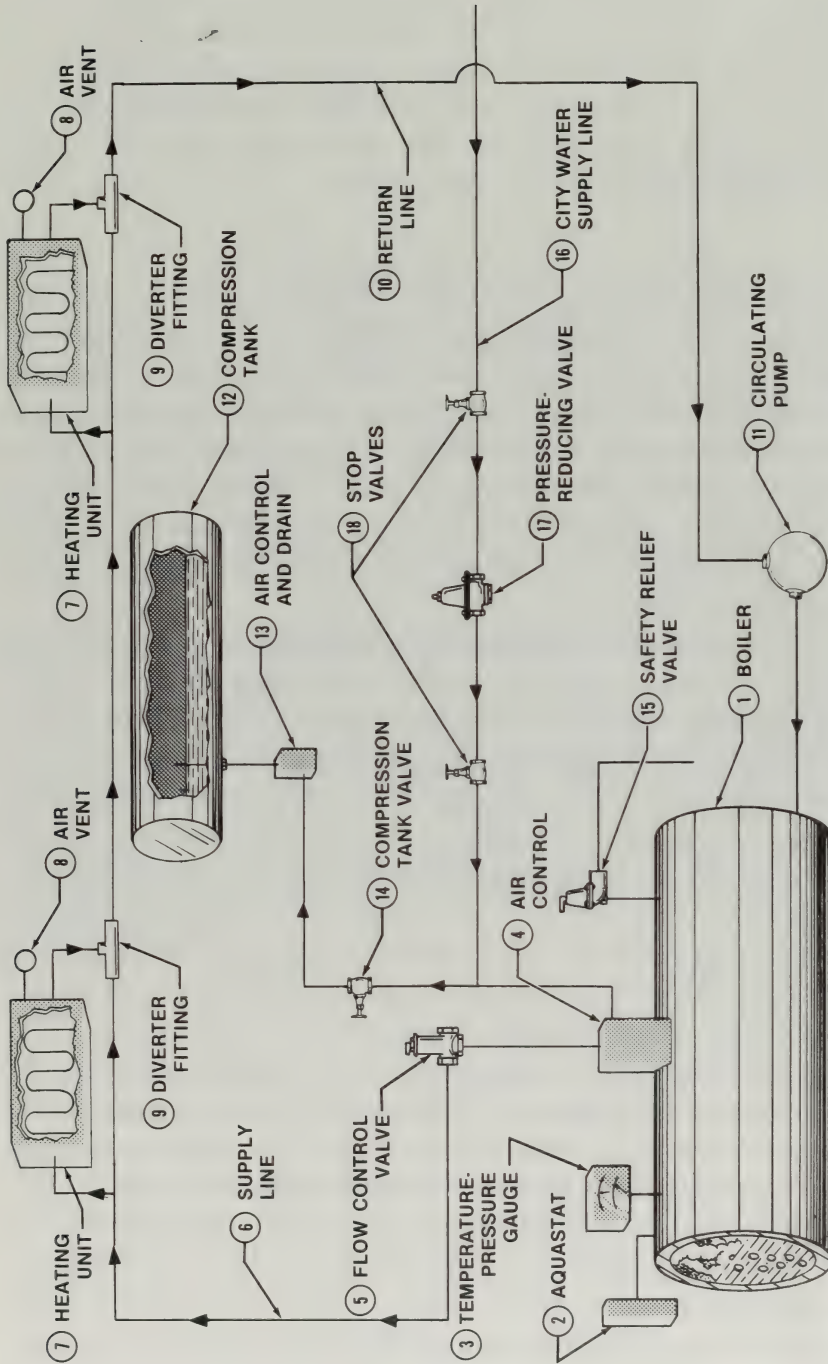

Figure 9-4. The forced circulation hot water heating system can be designed for use in any size building.
The forced circulation hot water heating system is a closed system that has no vent to the atmosphere. See Figure 9-4. Water is heated inside the boiler (1). The aquastat (limit control) (2) senses the temperature of the water and controls the starting and stopping of the burner. The temperature-pressure gauge (3) indicates the temperature and pressure of the hot water in the system.